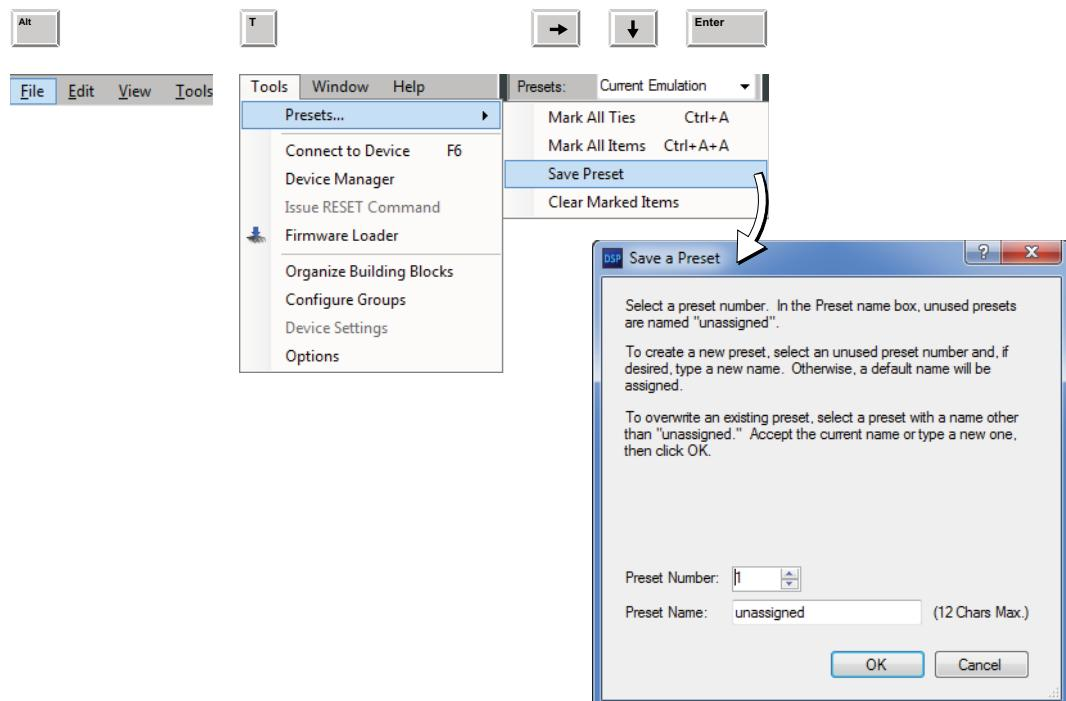

Figure 63. Saving a Preset Using Keyboard Navigation
6. **To save a preset**, press **<Alt>**, then **<T>**, then right arrow , then down arrow , then **<Enter>** (see **figure 63** on the next page).